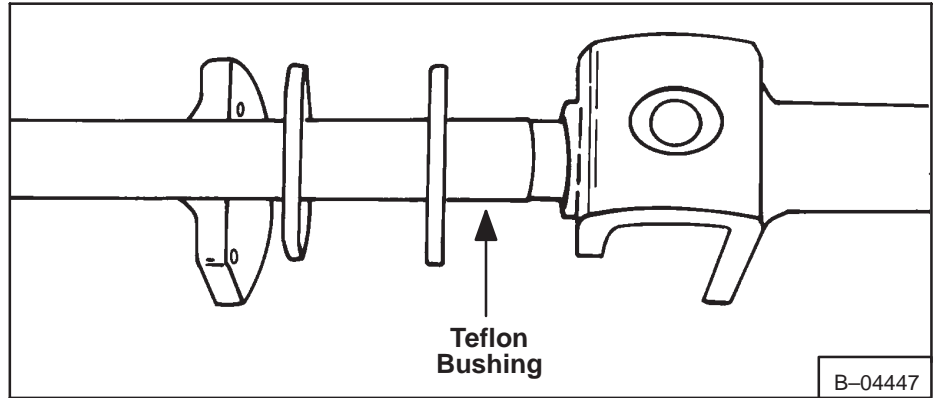

Fig. 3-12 Installing The Steering Levers Together
4. Install the two steering levers assemblies together (Fig. 3-12).